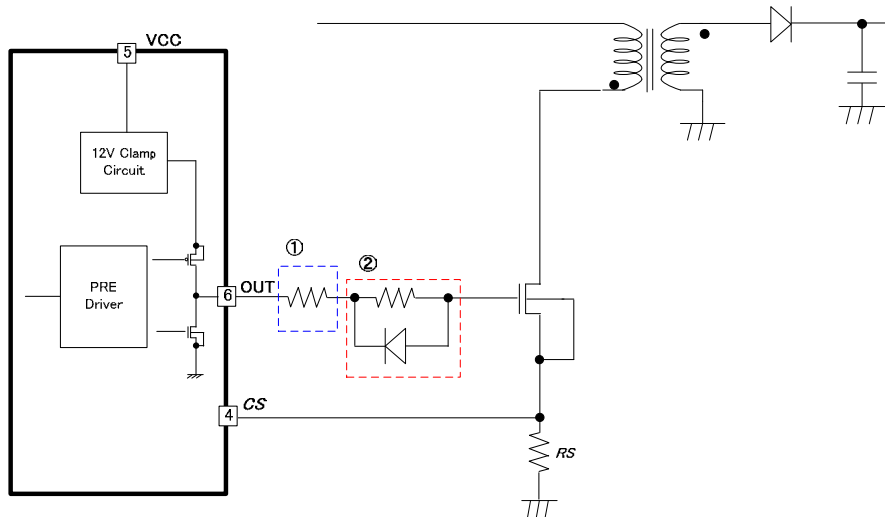

Figure 26. OUT Pin (Pin 5) Driver Circuit
Figure 26 shows a delay circuit for the OUT pin. In Figure 26, ① is valid during both turn-on and turn-off operations.
② shows a delay in the turn-on only, while turn-off is accelerated.
(9) Caution points for board layout pattern